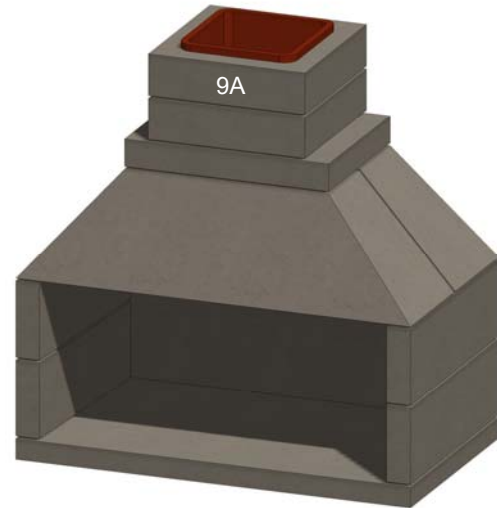

Figure 15. Chimney Complete
H. Install the next chimney section (9A), or any additional chimney sections to be installed. Fully bed each piece in mortar, and filling in the gap between the clay tiles in each section. Parge the joints to create a smooth transition between each chimney section. Note that if a tile is chipped or slightly out of square, it may be used as long as it the joints are filled and smoothed with high temperature mortar. See Figure 15.